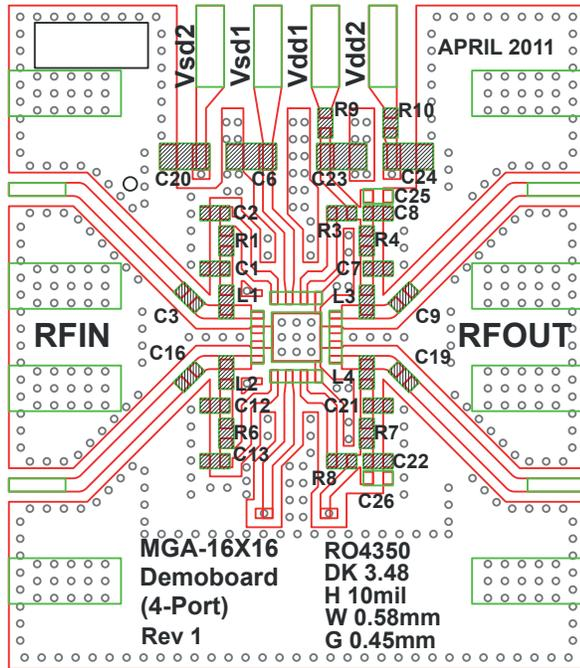
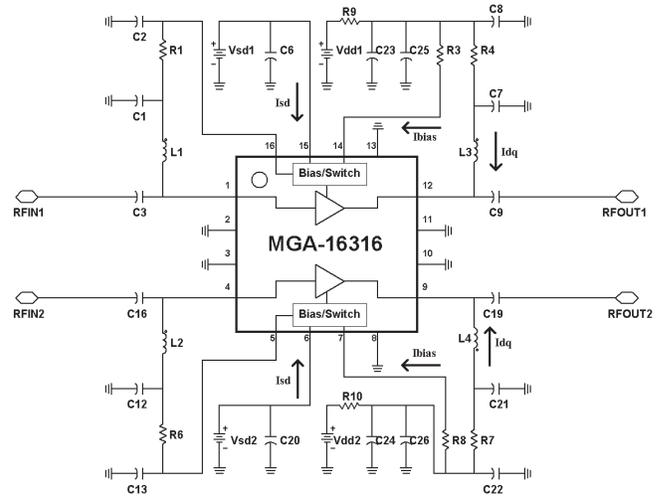

Figure 5. Demo Board Layout Diagram
Figure 6. Demo Board Schematic Diagram
4. Refer to Figure 6 for more details.
7. Bias to each LNA is adjustable using R3 and R8 (see Figure 6). Increasing R3 and R8 will reduce bias current (Idd) and vice-versa.
RF performance at $T_A = 25^\circ\text{C}$, $V_{dd} = 4.8\text{ V}$, $I_{dd} = 53\text{ mA}$, LNA mode, measured on demo board in Figure 5. Signal is CW unless stated otherwise. Application Test Circuit is shown in Figure 6 and Table 1. IIP3 test condition: FRF1-FRF2 = 1 MHz with input power of -20 dBm per tone.
2. Rbias is R3 and R8 from Figure 6.